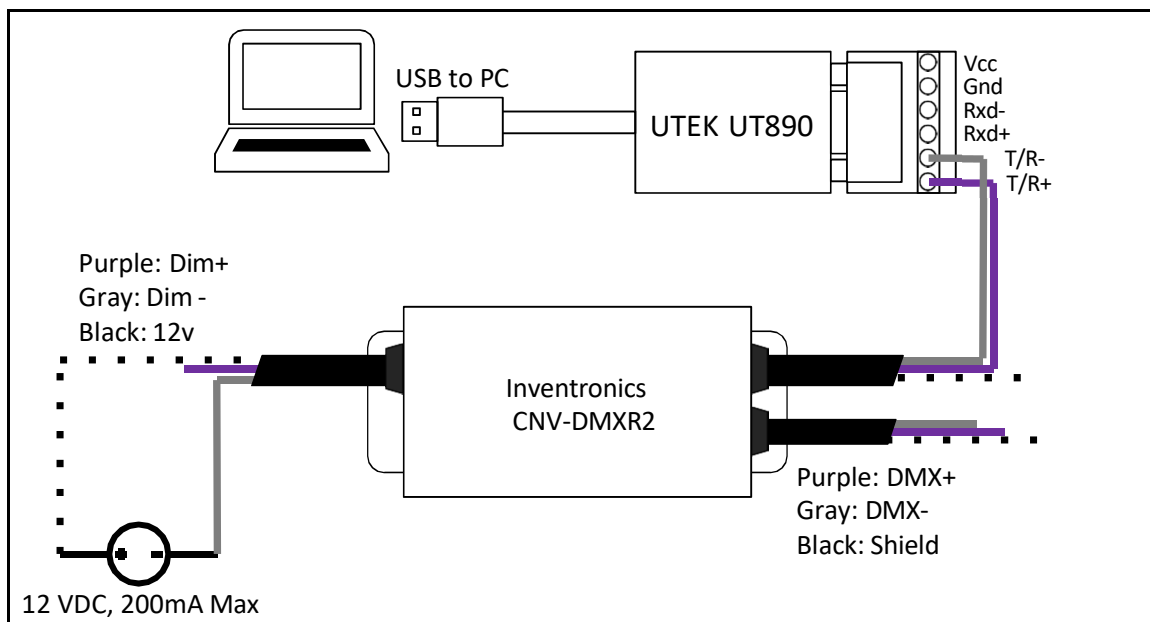

Figure 1: Wiring Diagram
A wiring diagram for connections required to program the CNV-DMXR2 can be seen below in Figure 1.
- Connection between CNV-DMXR2 and the UT890 (See Figure 1)